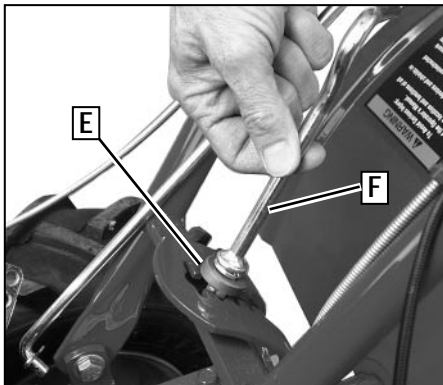

Figure 2-4: Install height adjustment handle.
5. Move the handlebars up or down to align the hole in the cross-brace with one of the four slots in the curved height adjustment bracket. Place the keyed washer (E, Figure 2-4) on the height adjustment handle (F) with the raised keys (edges) on the washer facing down.